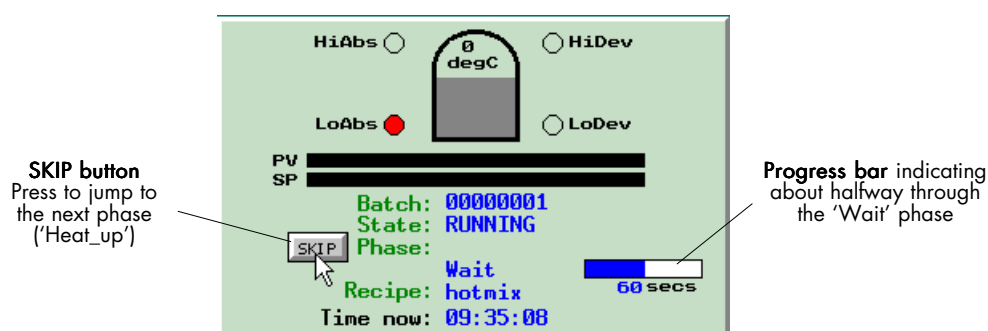

Figure 8-14 Halfway through the 'Wait' phase
- 3 Press the **Menu** key then **Vat** to see the user screen. The batch remains in the STARTING state for a short time, then adopts the RUNNING state. In the 'Wait' phase the blue progress bar indicates the passing of the 60-second wait time. After about 30 seconds, try pressing the 'SKIP' button to interrupt the wait time (Figure 8-14). The batch should jump immediately on to the 'Heat_up' phase.